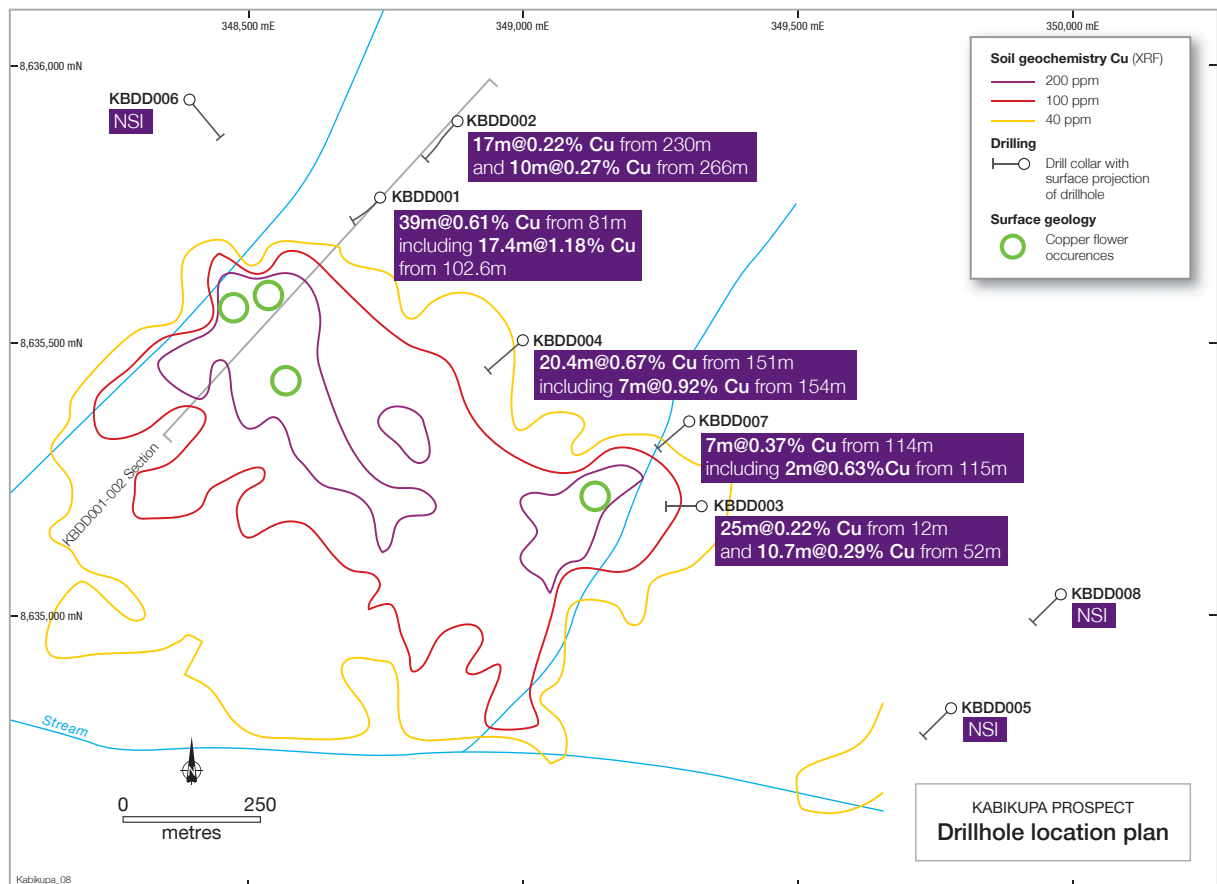

Figure 5: Kabikupa prospect soil anomaly contours and drill intercepts.
- 2015 drilling at Kabikupa prospect (Figure 5) sought to extend the mineralised strike extent to 1,800m.
- Significant copper mineralisation was not intercepted by drilling outside of the main surface anomaly, meaning subsurface copper mineralisation is likely confined to a strike length of approximately 1,000m (Figure 5).
- The first drill hole at Kabikupa prospect, KBDD001, returned **17.4m at 1.18% copper** from 102.6m within a broader intercept of **39m at 0.61% copper** from 81m1 (Figure 5).
- Drill hole KBDD002 targeted the same mineralisation down-dip and intersected weaker copper mineralisation, interpreted to be the margin of the main mineralisation zone. The hole returned 17m at 0.22% copper from 230m and 10m at 0.27% copper from 266m (Figure 5).
- KBDD003, 800m along strike to the southeast, also intersected the interpreted margin of the main mineralised zone. KBDD003 intercepted 25m at 0.22% copper from 12m and 10.7m at 0.29% copper from 52m (Figure 5).
- KBDD004 intersected the main mineralised zone and returned **20.4m at 0.67% copper** from 151m including **7m at 0.92% copper** from 154m (Figure 5).